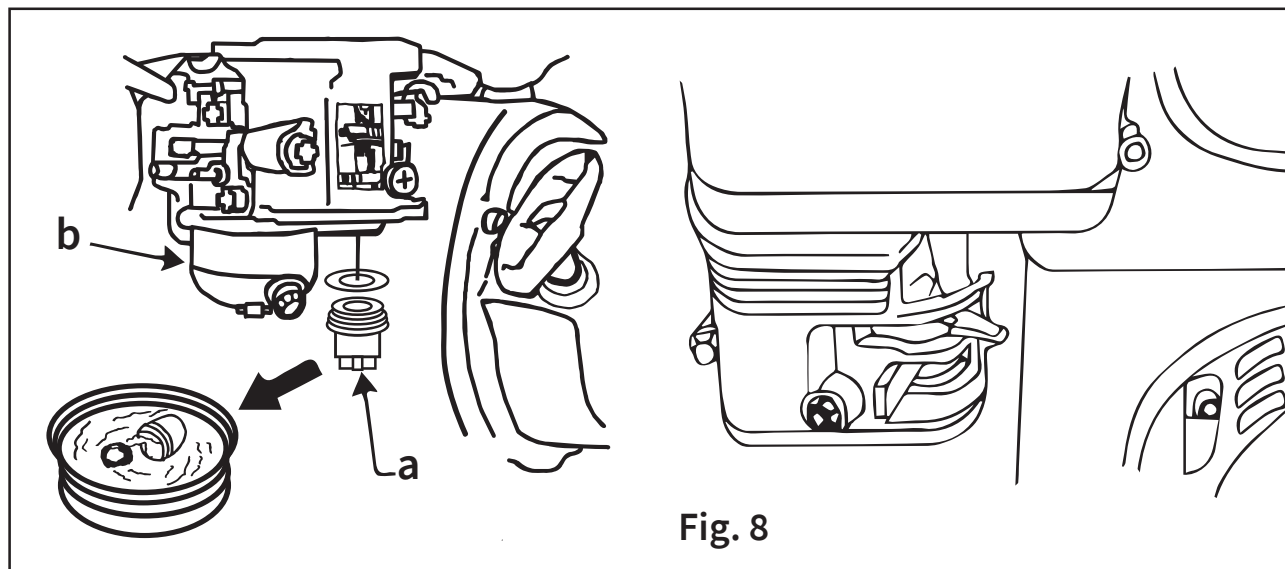

Fig. 8
4.8 Cleaning Sediment Cup (Fig. 8)